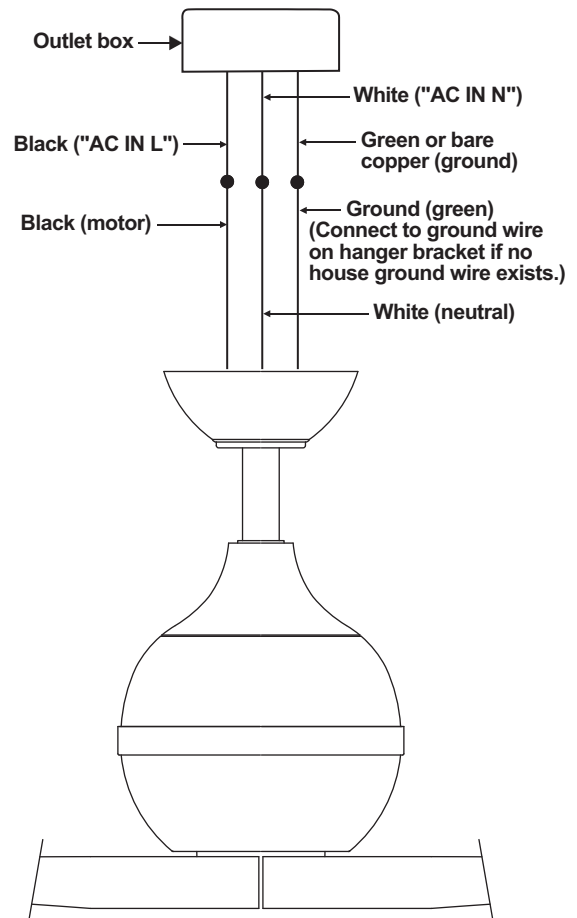

Figure 11
2. Connect the neutral fan (white) wire to the white neutral household wire. (Fig. 11)